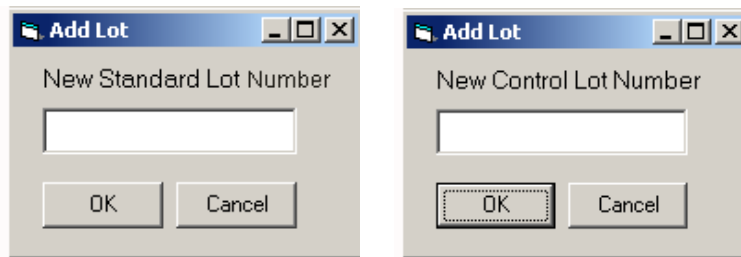
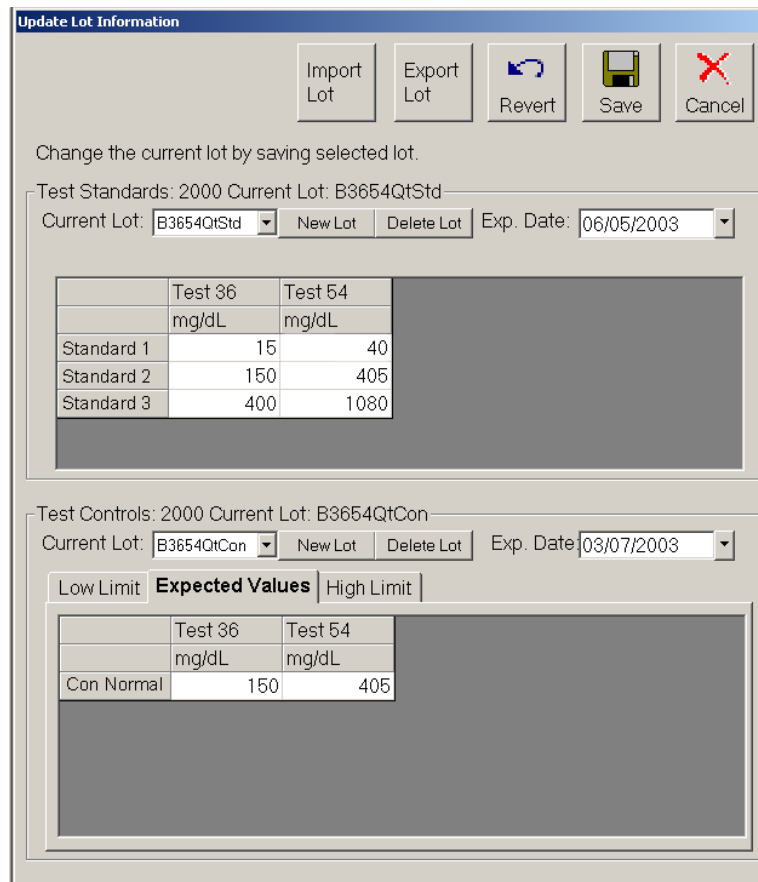

Figure 5-42. Add Lot Standard and Control Dialog Boxes
Figure 5-43. Update Lot Information Dialog Box
tinue. Once you enter the numbers, the **Update Lot Information** dialog box opens. See Figure 5-42 and Figure 5-43.
- b.) If the template has associated lot information, the **Update Lot Information** dialog box opens. To create a new lot when there is an existing lot, click **New Lot** on the Standard or Control section of the dialog box. A **New Standard Lot** or **New Control Lot** dialog box opens. Enter the standard or control lot number. See Figure 5-42 and Figure 5-43.
Note: Depending on the types of products associated with the template that you select, the screen may vary from the example in Figure 5-43. That is, if you are creating only standard lots, then only the upper
5. Enter the standard concentration values provided in the kit manufacturer’s instructions. See Figure 5-43.